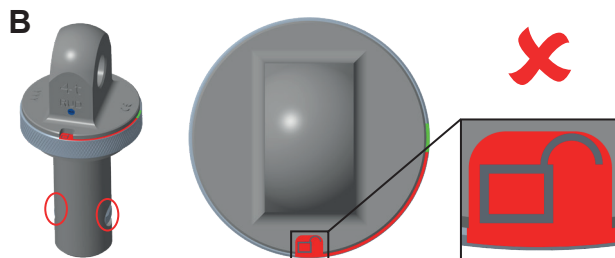

Fig. 5: Symbol **RED | LOCK OPEN** = PIP-RAPIDO can be mounted/removed
- **RED | LOCK OPEN** (Fig. 5)